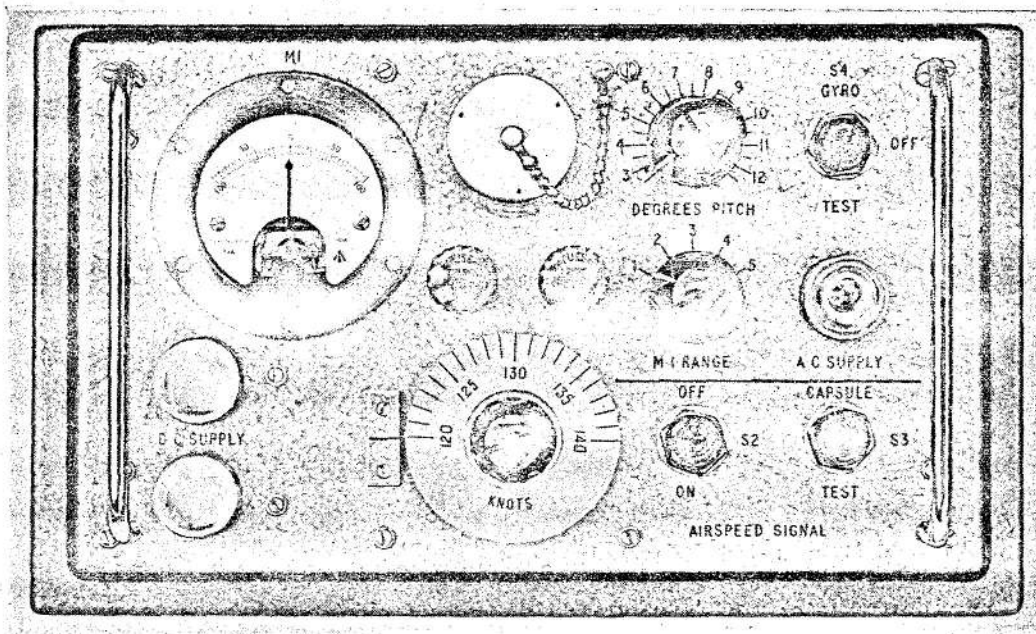

Fig. 2. 1st line test set (front view)
17. Normally, the pitch signal from the artificial horizon, Gyro Mk. 5 is applied to the actuator amplifier via pin A of PL2 (3) to coil AB of magnetic amplifier MA1 and compared electrically with the pitch datum signal derived from the speed trim switch. When the test set is connected into the system an additional pitch signal may be simulated by the test set potentiometer (RV2), this signal taken via switch 4 (TEST position) meter M1, and switch S1 (position 4 or 5) to pin F of PL1 and applied to the actuator amplifier at pin A of PL2 (3).
18. The wiper of RV2 may be adjusted by the 'DEGREES PITCH' knob (fig. 2) and it is arranged that with the setting at $7\frac{1}{2}$ degrees for the Mk. 1 and $5\frac{3}{4}$ degrees for the Mk. 2, i.e. the Sea-Vixen approach attitude, the applied signal will be identical to the attitude datum signal. Consequently, the actuator will remain stationary and the test set meter M1 will read approximately zero. Movement of